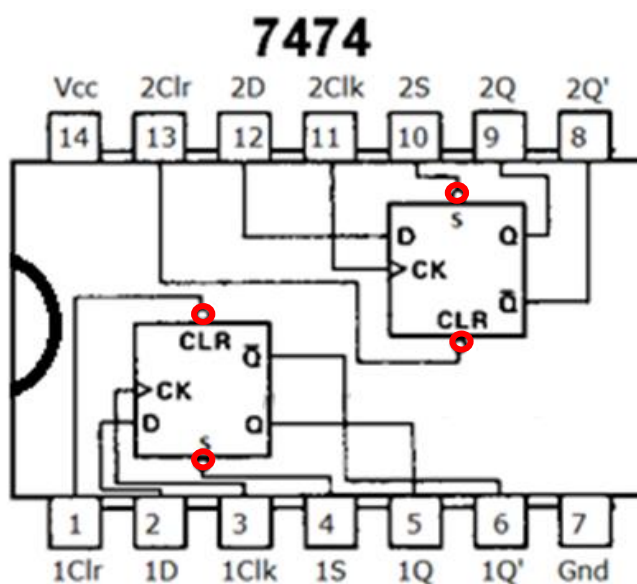

Figure 11. Pin configuration of a D flip-flop.²
**** *Attention:* The set (PRESET) and reset (CLR) are active low, shown by the bubbles on the logic gates, painted red here in *Figure 11*. This means that rather than the output Q being 0 when CLR is 1, Q is 0 when CLR is 1. Similarly, rather than the output Q being 1 when Set is 1, Q is 1 when Set is 0. The input condition is merely inverted, which can be denoted as \overline{Preset} and \overline{Clear} .